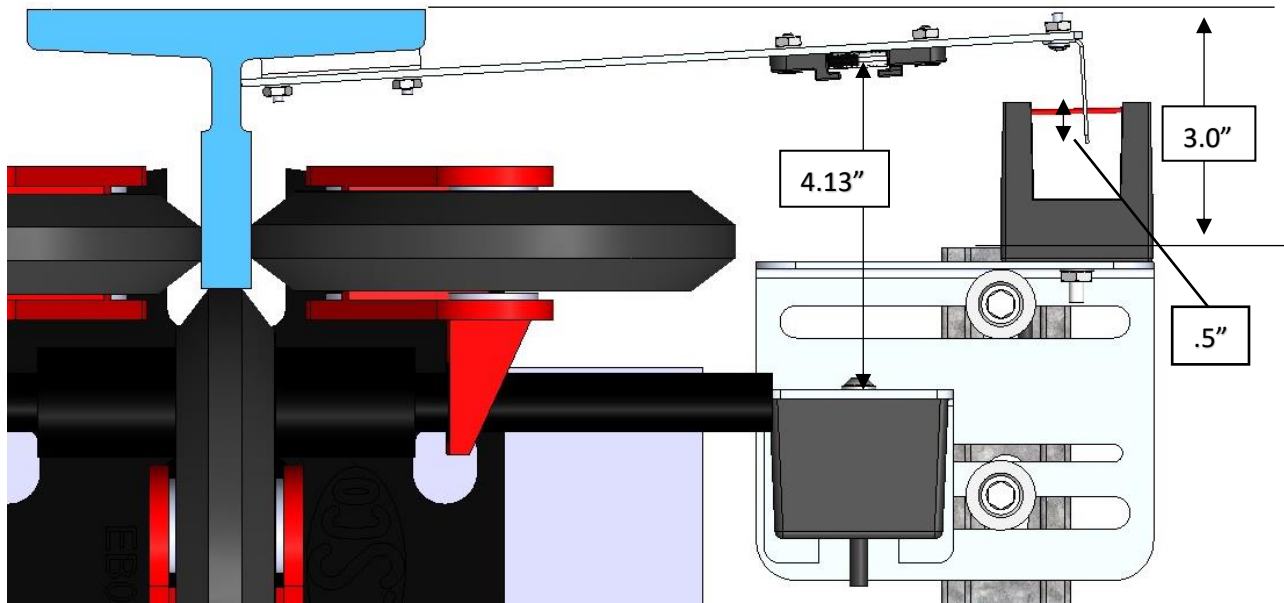

Figure 7: Sensor Array Assembly positioning
| Figure 7: Sensor Array Assembly positioning | 10 |
- Note: Exact positioning and lengths of Unistrut can be adjusted as needed as long as the Sensor Array is positioned as shown in figure 7.
- Temporarily affix a Tape Clip Assembly onto the guide rail to use as alignment for the Sensor Array Assembly. See figure 7.
- Set the end of the 24" Unistrut at 3.0" from the rear surface of the guide rail as shown in figure 7.
- Loosely bolt the Sensor Array Assembly onto the 24" Unistrut with the Door Zone Blade centered horizontally in the GLS Reader as shown in figure 7.
- Position the Sensor Array at the distances shown in figure 7 then tighten all bolts. Note: the Optical Sensor Mount bolts may be loosened if needed to adjust the position of the sensor.